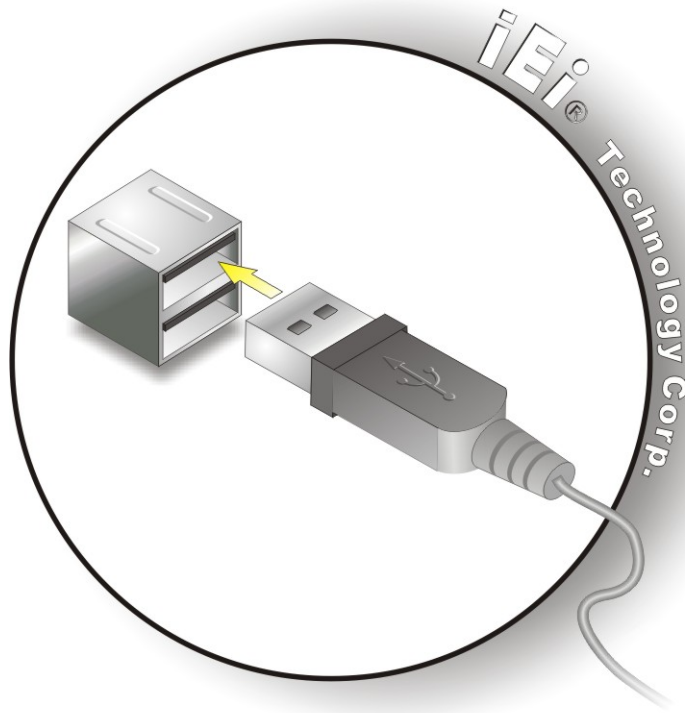

Figure 4-17: USB Connector
Step 2: **Insert a USB Series "A" plug.** Insert the USB Series "A" plug of a device into the USB Series "A" receptacle on the external peripheral interface. See Figure 4-17.